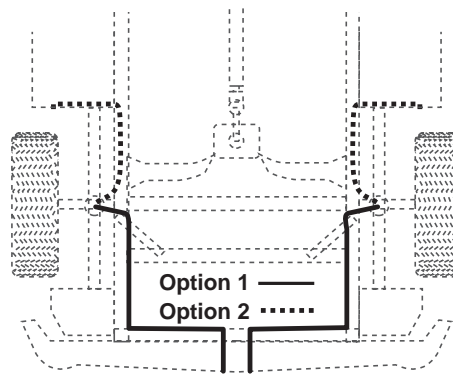

fig. 30
6. Route the air line along the frame to the air fitting on the air spring (Fig. 30). Keep AT LEAST 6" of clearance between the air line and heat sources, such as the exhaust pipes, muffler, or catalytic converter. Avoid sharp bends and edges. Use the plastic tie straps to secure the air line to fixed, non-moving points along the chassis. Be sure that the tie straps are tight, but do not pinch the air line. Leave at least 2" of slack to allow for any movement that might pull on the air line.